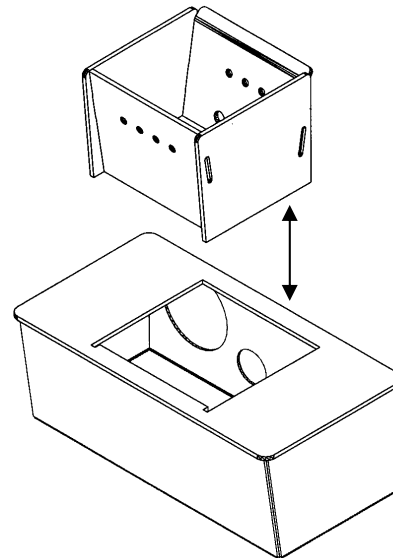

FIGURE 16
- Remove the burnpots inner section by grasping it and pulling straight up (see Figure 16).